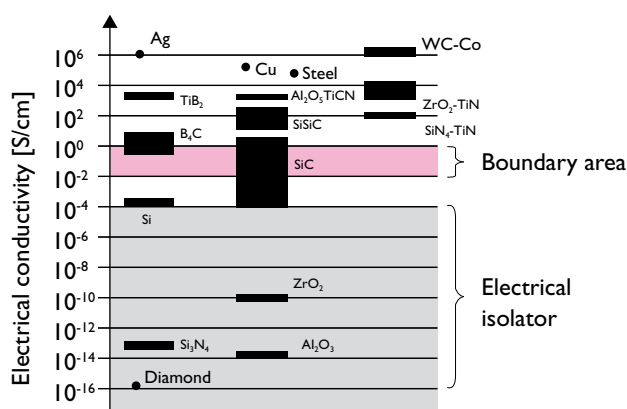

Figure 4. Overview of materials with their electrical conductivity.
The most obvious problem is the electrical conductivity. Experience shows that the boundary of electrical conductivity for the EDM process is around 10⁻² S/cm. Therefore, conductive ceramics like TiB₂, TiN and tungsten carbide (WC) can be directly structured using EDM. Some silicon carbides and B₄C, however, are on the transition zone and their machinability by EDM largely depends on the applied technology. Nevertheless, a large variety of ceramic materials like alumina, zirconia, and silicon nitride are too resistive to be machined; see Figure 4. For that reason, by mixing one or two electrical conductive phase(s) such as borides, nitrides or carbides of transition metals into the ceramic matrix at the powder stage, some composites show greatly improved electrical conductivity. The most popular applied secondary phases are TiN, TiCN or TiC, since they also help further improving the mechanical properties such as toughness, strength and hardness of the composites.